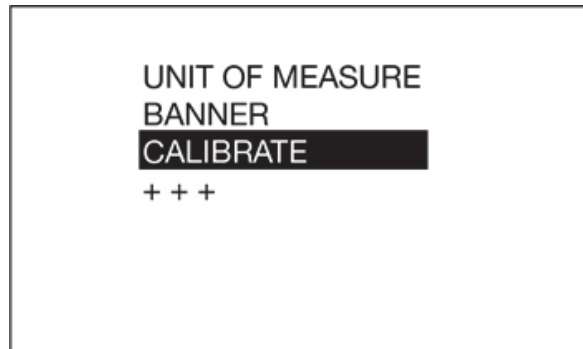

FIG. 14
3. Use the UP or DOWN ARROW button on the keypad to highlight CALIBRATE (FIG. 14) and then press the center ENTER button on the keypad to select the CALIBRATE option.